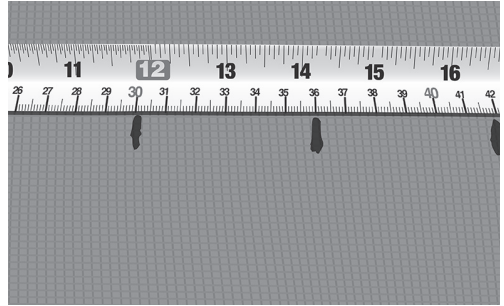

Fig. 4. Mark the C-C distance
6. Mark the calculated C-C distance on wall, reinforcement mesh or similar (Fig. 4).